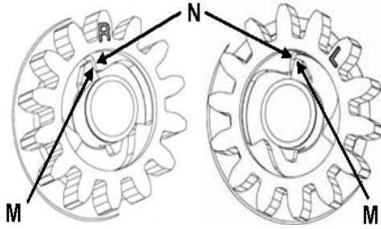

figure 19. Rear wheel pinions and pawls
Note: The pinion gear (H) is marked "R" on one side and "L" on the other. The pinion gear (H) is to be fitted with the "R" displayed when fitted on the right hand drive side of the mower and with the "L" displayed when fitted on the left hand drive side. Refer to figure 19. The right and left side of the mower is indicated while standing in the operator position.
Note: The pawl must always be orientated so that the side with the large flat face (M) will come in contact with the flat faces inside the pinion gear (N) (The orientation is important to ensure that the pawl will drive the pinion gear when the clutch is engaged). Refer to figure 19.
- ★ Replace the wheel and retain using the tension washer and the nyloc nut (K). Tension the nut just enough to remove the side to side movement of the wheel.
- ★ Replace the wheel caps (A) and re-attach the spark plug lead and lower the wheels to the ground.